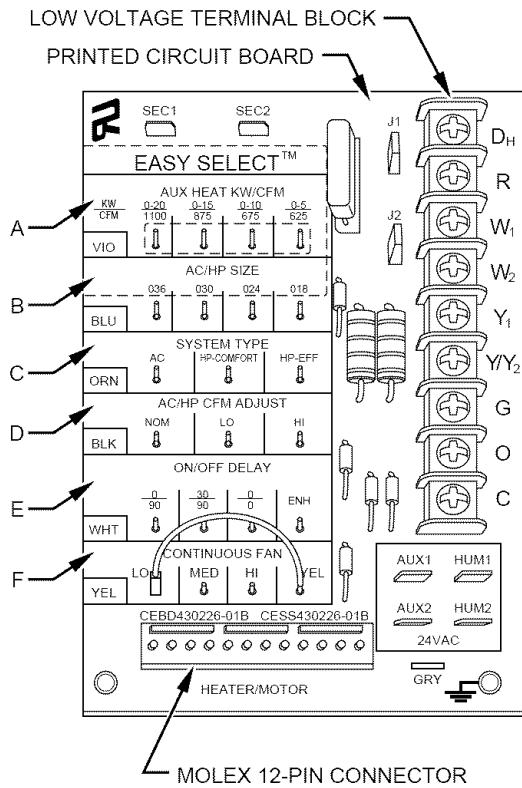

Fig. 21—Detail of PF1MNB071 Printed-Circuit Board
Because the ECM blower motor used in the 071 size fan coil is controlled by low-voltage signals, a switched 230vac electronic air cleaner power signal is not available. This signal is replaced by a 24vac signal which is provided at PCB terminals AUX1 and AUX2 (See Fig. 21.) This signal is present whenever the G thermostat signal is present (heat pump heating, cooling and continuous blower modes). When the fan coil is installed with an electric air cleaner, use field supplied 24vac relay.
The EASY SELECT taps are used by the installer to configure a system. The ECM uses the selected taps to modify its operation to a pre-programmed table of airflows. Airflows are based on system size or mode of operation and those airflows are modified in response to other inputs such as the need for de-humidification. (See Fig. 21.)
Installer must select the auxiliary heat airflow approved for application with kw size heater installed. If no heater is installed, this step can be skipped. Each select pin is marked with a range of heaters for which airflow, also marked, is approved. For increased comfort select the narrowest kw range matching the heater size, for example, 0-10 for 10-kw heater. This airflow must be greater than the minimum CFM for electric heater application with the size system installed for safe and continuous operation. (See Tables 1 and 2 for airflow delivery and minimum CFM.) Note that airflow marked is the airflow which will be supplied in emergency heat mode and heating mode on air conditioners when electric heat is the primary heating source. In heat pump heating mode when electric heaters are energized, the ECM will run the higher of heat pump heating airflow and electric heater airflow to ensure safe heater operation. The factory selection is the largest heater range approved. (See Fig. 21, A as indicated.)
The factory setting for air conditioner or heat pump size is the largest unit meant for application with the model of fan coil purchased. The installer needs to select the air conditioner or heat pump size to ensure that airflow delivered falls within proper range for the size unit installed. This applies to all operational modes with the exception of electric heat modes. (See Fig. 21, B as indicated.)
The factory setting is AC. (See Fig. 21, C as indicated.)
To provide airflow at the rates described above, the AC/HP ADJUST select is factory set to the nominal (nom) tap. The adjust selections HI/LO will regulate airflow supplied for all operational modes, except non-heat pump heating modes. HI provides 15 percent airflow over nominal unit size selected and LO provides 10 percent airflow below nominal unit size selected. The adjust selection options are provided to adjust airflow supplied to meet individual installation needs for such things as noise, comfort, and humidity removal. (See Fig. 21, D as indicated.)
Four motor operation delay profiles are provided to customize and enhance system operation. (See Fig. 21, E as indicated)
3. HI speed — move connector of HI, 100% cooling mode airflow. (See Fig. 21, F as indicated.)